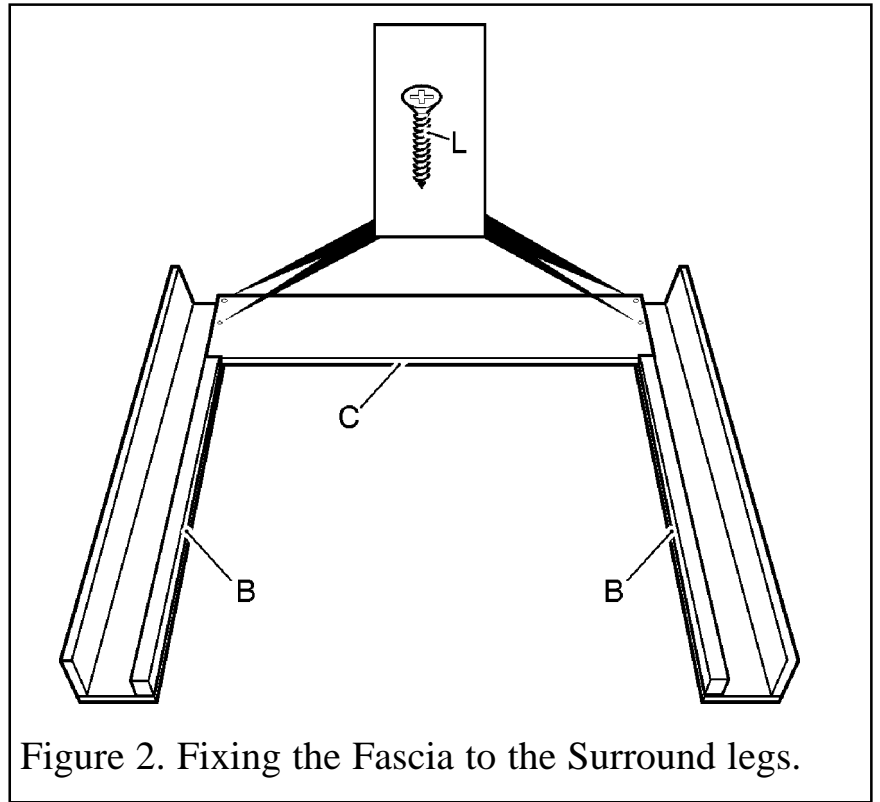

Figure 2. Fixing the Fascia to the Surround legs.
- Take the Fascia (C) and locate it to Legs (B) using screws (L) (See figure 2).